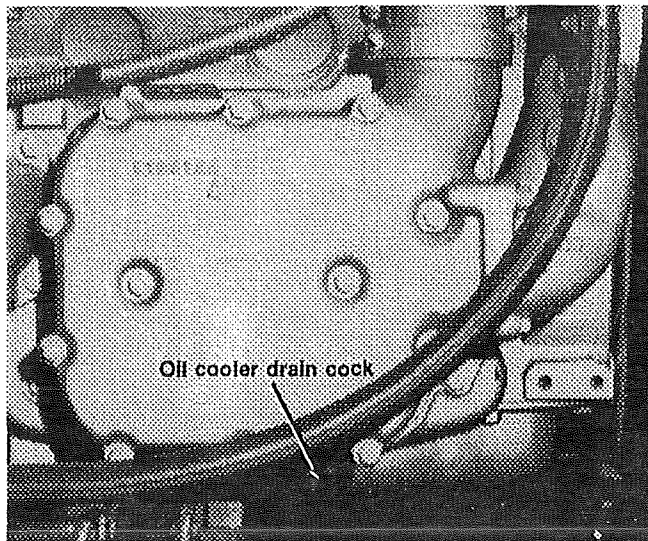

FIG. 14
10. Open oil cooler drain cock ( see fig. 14).